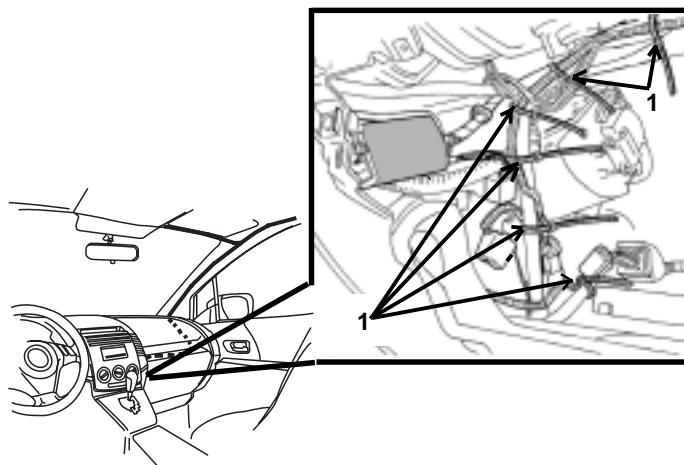

FIGURE 33
4. LOOP THE EXCESS DVD MAIN HARNESS IN THE GLOVE BOX AREA. (AS SHOWN IN FIGURE 33) SECURE THE HARNESS USING 6 THICK TIE WRAPS IN THE LOCATIONS INDICATED (1).